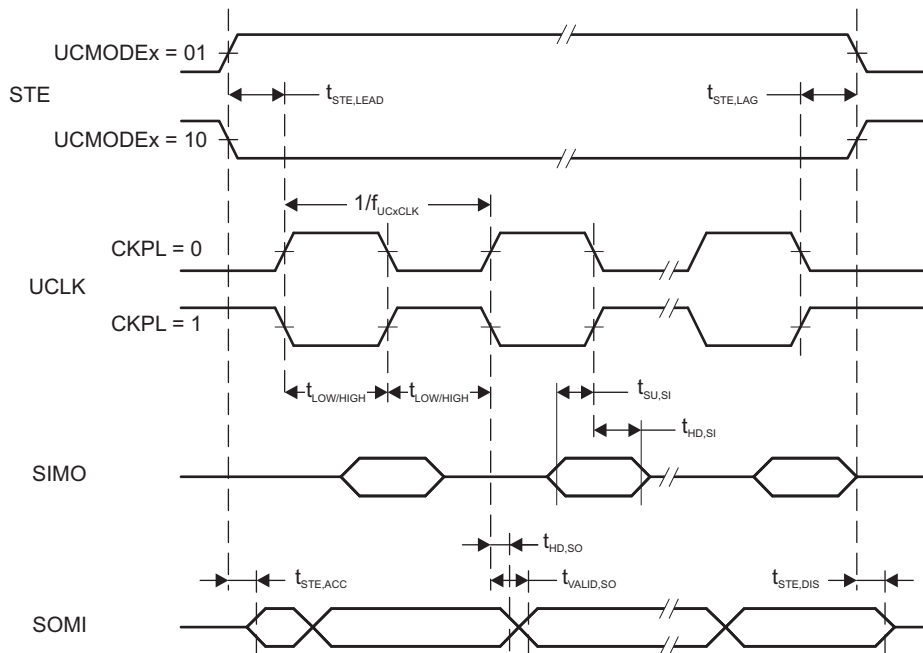

Figure 5-15. SPI Slave Mode, CKPH = 0
- (2) Specifies the time to drive the next valid data to the SOMI output after the output changing UCLK clock edge. See the timing diagrams in Figure 5-15 and Figure 5-16.
- (3) Specifies how long data on the SOMI output is valid after the output changing UCLK clock edge. Refer to the timing diagrams in Figure 5-15 and Figure 5-16.